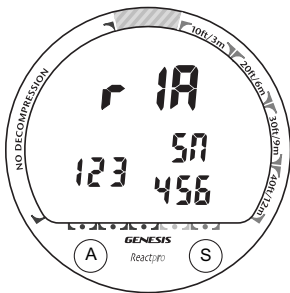

Fig. 11 - Serial Number
- When the S (Right) button is held depressed when the Diagnostic countdown reaches 00, an External Access request is initiated. A Serial Number screen appears displaying the unit's Serial Number and firmware code Revision Number as long as the button is held depressed (Fig. 11). Upon releasing the button, the unit shuts Off.